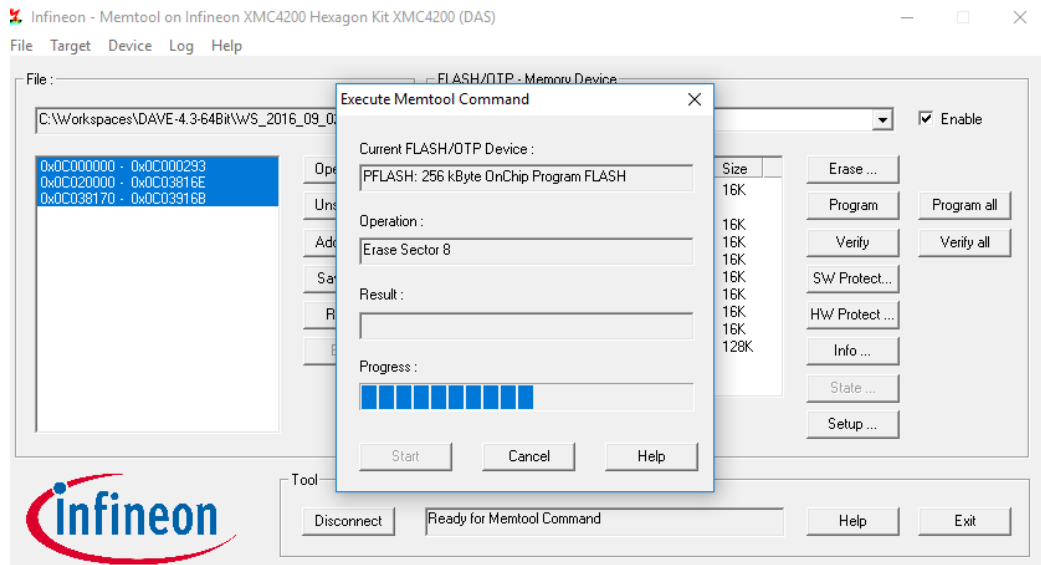
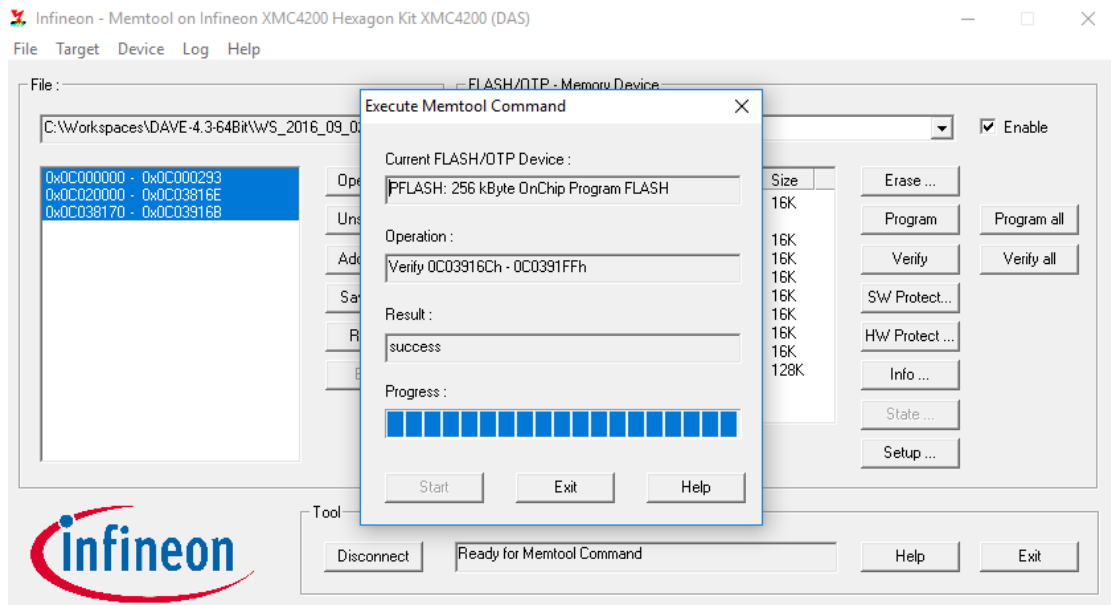

Figure 9. Programming Board in Process
Figure 10. Completed Programming
Step 7. Press the Program all button and the programming process will start. It will take 3-5 seconds to flash the new files into the OPS241. A progress window will appear as shown in Figure 9. Upon completion the window will stay present but in the Result box it will say “success” (Figure 10). Press the Exit button to exit the window. The board is now successfully reprogrammed.